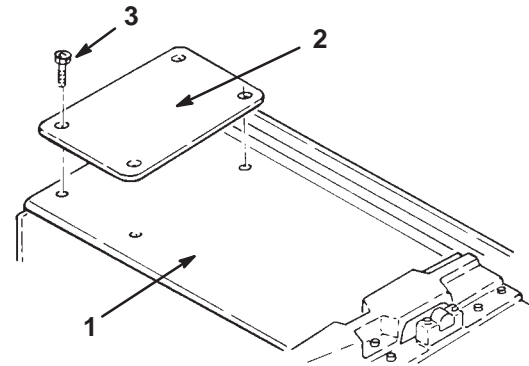

Figure 2
3. On the #2 and #3 cutting units, remove 4 cover capscrews located at the outside end of the cutting unit drive housing. Discard cover screws. Mount a tipper plate to front left-hand (#2) cutting unit and the front right-hand (#3) cutting unit using flathead socket screws and locknuts supplied with tipper plates (Fig. 2).
5. On the #4 and #5 cutting units, remove 4 cover capscrews located at the outside end of the cutting unit drive housing. Discard cover screws. Tipper brackets will be mounted at these locations after the #4 and #5 cutting units are mounted on lift arms (Fig. 2).